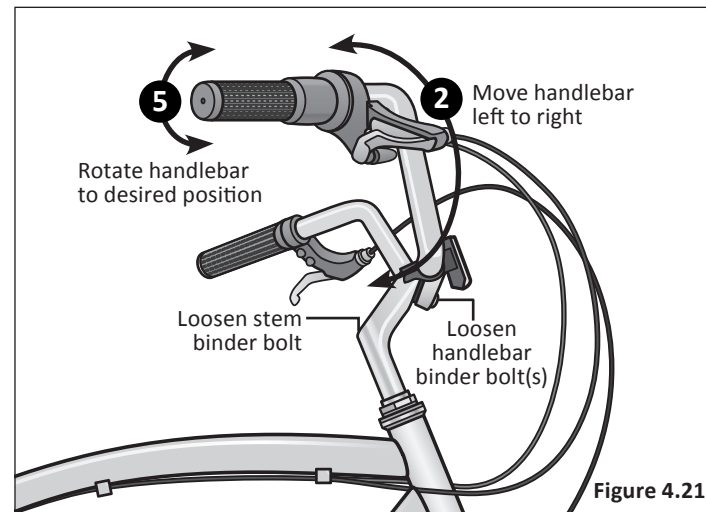

Figure 4.21
- 2 Using a 6 mm Allen wrench, loosen the stem binder bolt and move the handlebar left or right until it is aligned with the front wheel. **Figure 4.21**
- 5 Rotate the handlebar into the desired position. **Figure 4.21**